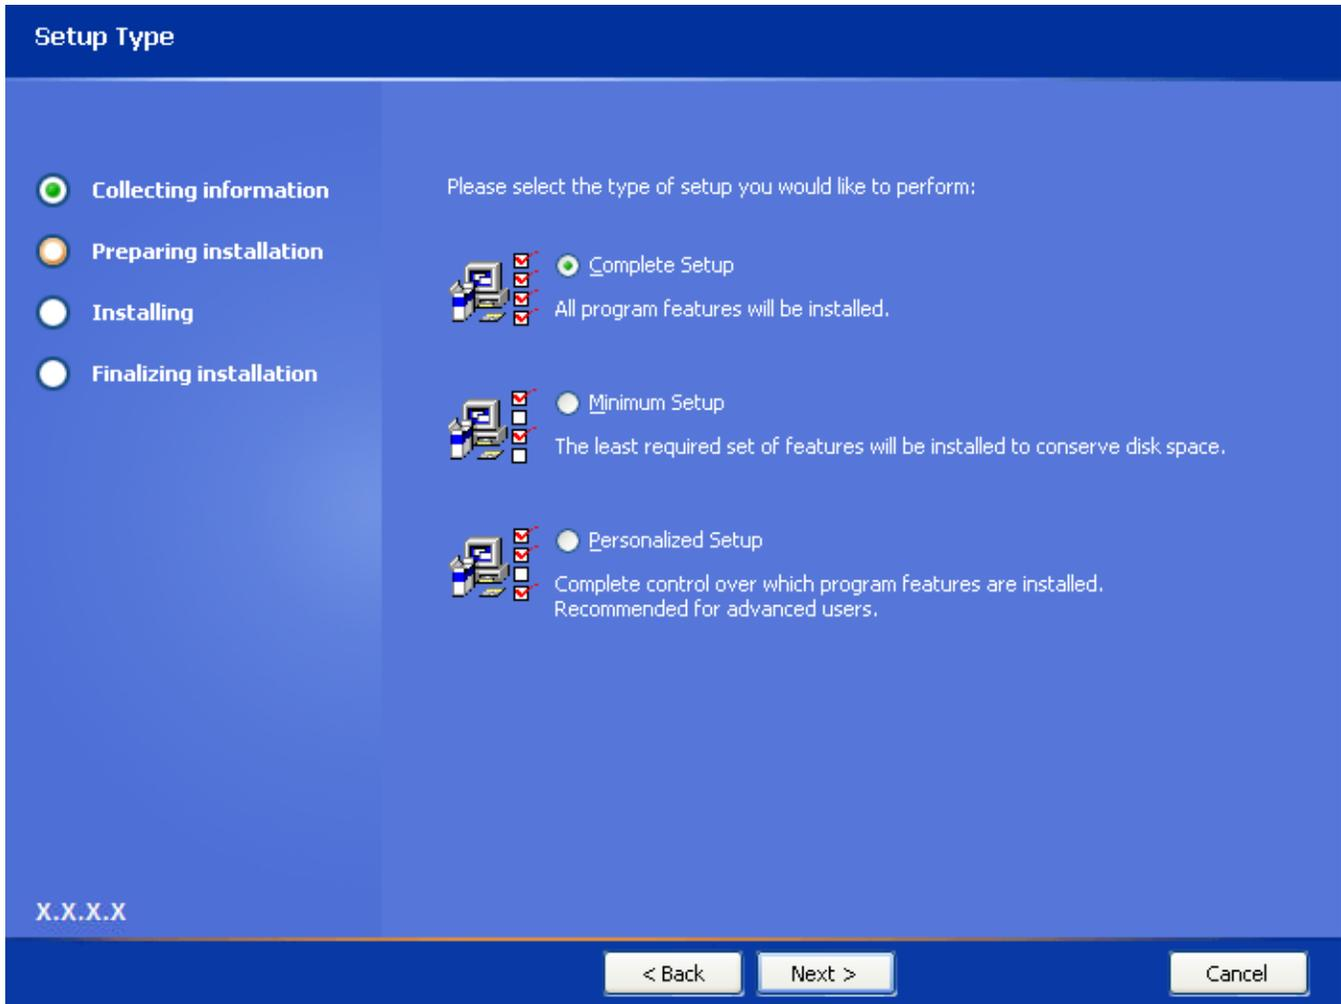

Figure 3 - Setup Type Screen
5. Click on the **Next** button. The **Setup Type** screen (Figure 3) appears.